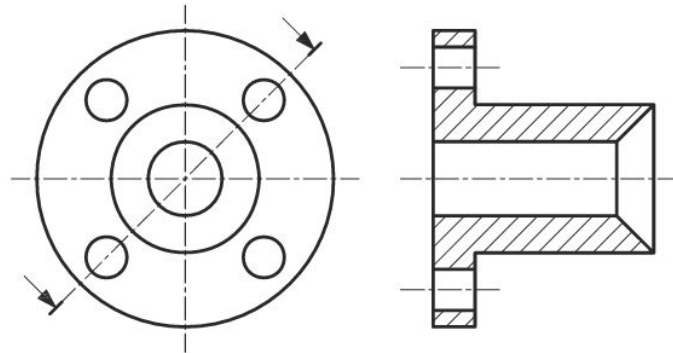

Fig. 9.32
- **Aligned Section** An aligned section is used to show the shape of features that do not align with the vertical and horizontal centrelines of the object, Fig. 9.32.